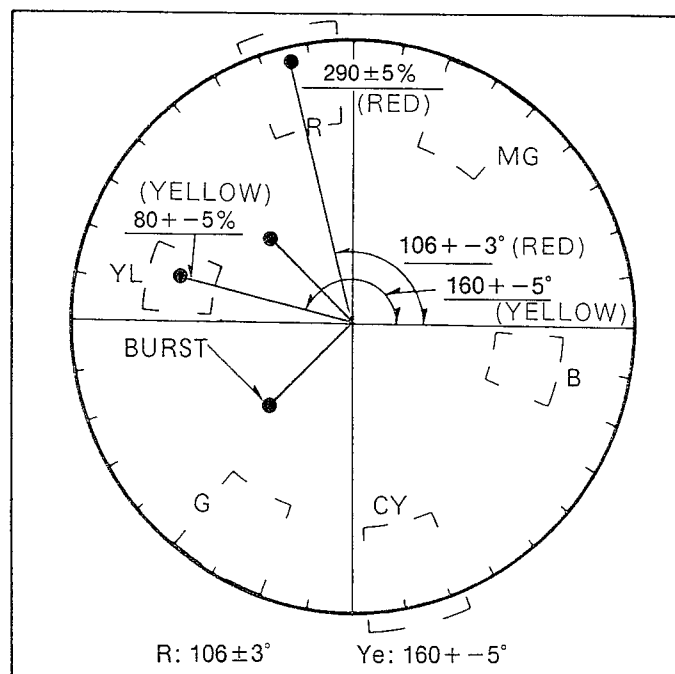

Fig. C28
- (6) When best point comes, change the command to "02" by pushing "CMD" key, "0" key and "2" key and change the address to "74" by pushing the "ADR" key, "7" key and "4" key (Do not change the data) and then push the "SET" key to write its adjusted data into EEPROM directly.
- (7) Change the command to "01" by pushing the "CMD" key, "0" key and "1" key. Change the address to "07" by pushing the "ADR" key, "0" key and "7" key.
- (8) Push the "INC" key or "DEC" key so that phase of Red and Yellow vectors approach to the spec.
- (9) When best point comes, change the command to "02" by pushing the "CMD" key, "0" key and "2" key. (Do not change the data), and change the address to "77" by pushing "ADR" key, "7" key and "7" key. Then, Push the "SET" key to write its adjusted data to EEPROM Directly.
- (10) Change the command to "01" by pushing the "CMD" key, "0" key and "1" key. Change the address to "0A" (R-Y Gain) by pushing "ADR" key, "0" key and "A" key.
- (11) Push the "INC" or "DEC" key so that gain of Red and Yellow vectors approach to the spec.
- (12) When best point comes, change the command to "02" and change the address to "73" while keeping the data. Then, Push the "SET" key to write its adjusted data to EEPROM directly.
- (13) Change the command to "01". Change the address to "08"(B-Y Gain).
- (14) Push the "INC" or "DEC" key so that gain of Red and Yellow vectors approach to the spec.
- (15) When the best point comes, change the command to "02" and change the address to "76" (do not change the data). Then, Push the "SET" key to write adjusted data to EEPROM directly.
- (16) Repeat the 3. to 15. until vectors become within spec as shown in Fig.C28.